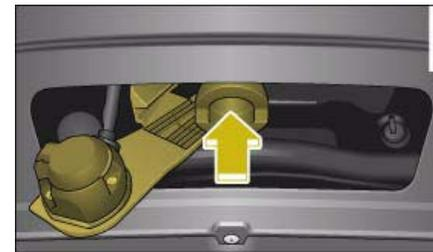

Fig. 240 Removable towing bracket: Inserting the ball joint
- With the spring mechanism in the “ready” position, insert the ball joint into the mounting fixture and push it upwards ⇒ *page 237*, *fig. 240* in the direction indicated (arrow) ⇒ . The spring mechanism should then engage automatically with an audible click.